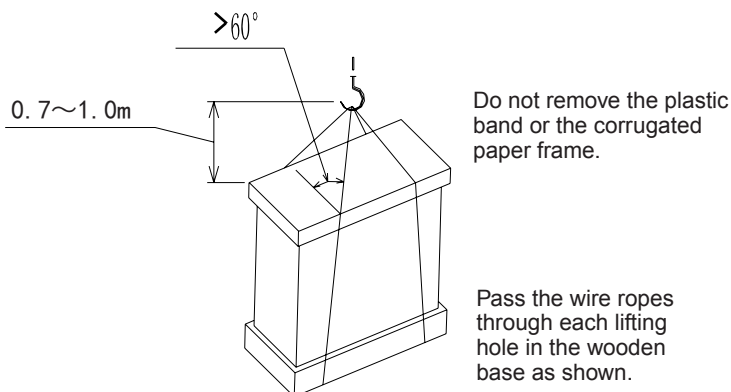

Fig. 3.1 Lifting Work for Transportation
- (1) Do not remove any packing materials.
- (2) Hang the unit under packing condition with two (2) ropes, as shown in Fig. 3.1.